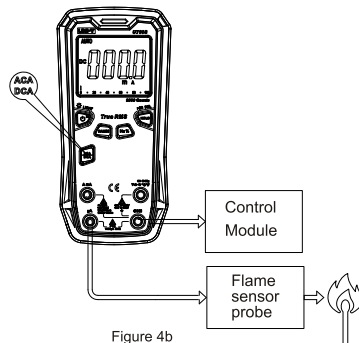

Figure 4b
- “ μA ” terminal can be used to heating system flame rectifier circuit detection (Figure 4b)